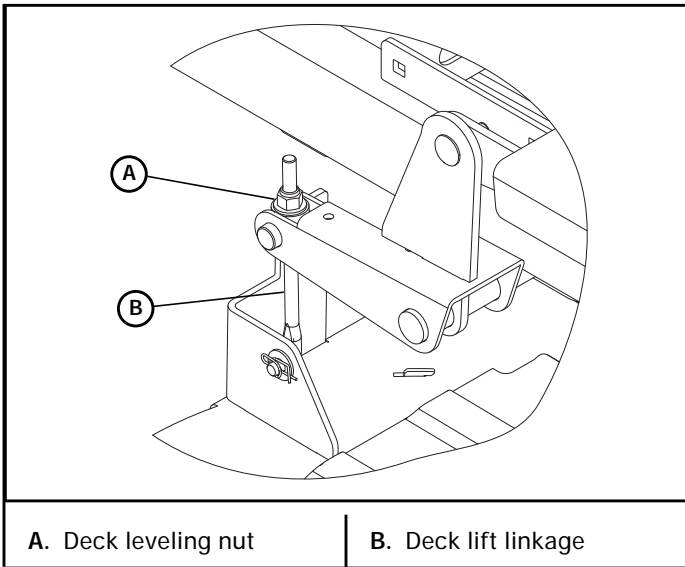

Figure 6-4
7. Adjust one (1) of the deck leveling nuts until the deck begins to lift off of the block. You should be able to slide the block out from under the deck without feeling any resistance. Figure 6-4